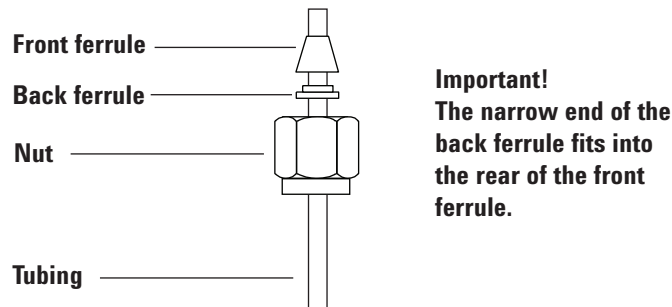

Figure 16. Swagelok nuts and ferrules
- 1 Place a Swagelok nut, back ferrule, and front ferrule on the tubing as shown in **Figure 16**.